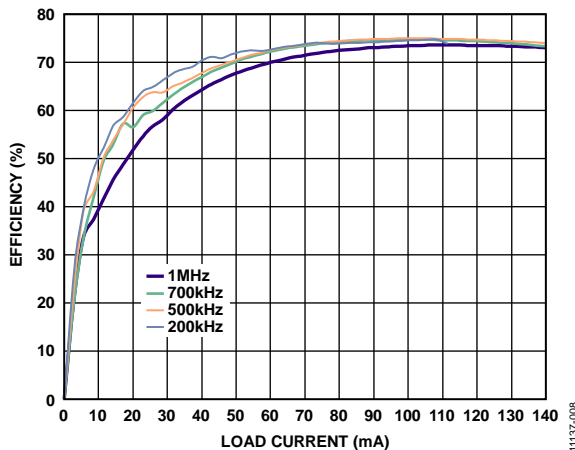
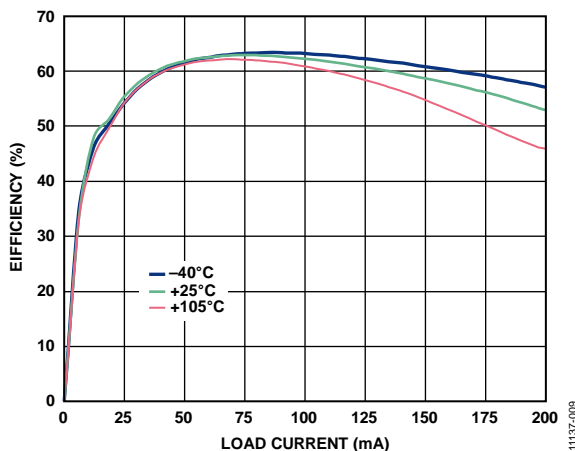
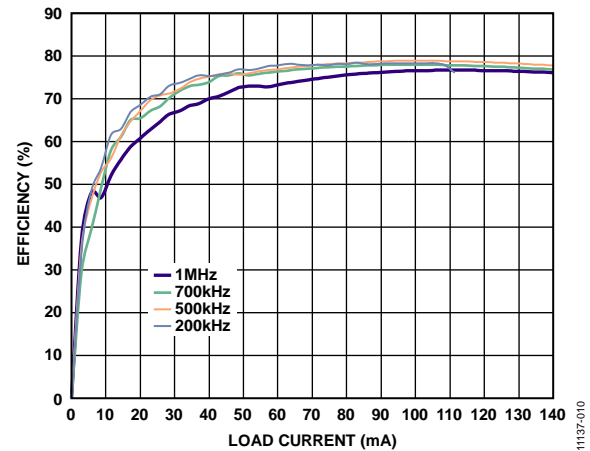
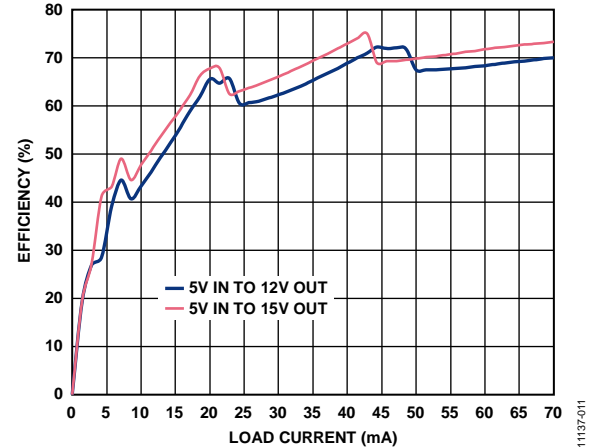

Figure 8. 5 V Input to 15 V Output Efficiency Using a 1CT:3CT Coilcraft Transformer (CR7983-CL) at Various Switching Frequencies
Figure 9. 5 V Input to 15 V Output Efficiency Using a 1CT:3CT Coilcraft Transformer (CR7983-CL) at 500 kHz and Various Temperatures
Figure 10. 5 V Input to 15 V Output Efficiency Using a 1CT:3CT Halo Electronics Transformer (TGRAD-560V8LF) at Various Switching Frequencies
Figure 11. Double-Supply Efficiency for Various Output Configurations Using a 1CT:5CT Coilcraft Transformer (CR7983-CL) at 500 kHz
Side 2 is powered by the secondary isolated 15 V supply. The ADuM4471 internal low dropout regulator converts this voltage to 5 V. The regulated 5 V supply powers the ADuM4471 secondary side. Therefore, the ADuM4471  $V_{REG}$  pin is 15 V, and the  $V_{DD2}$  pin is 5 V. The 15 V supply connects to P7 (labeled OUT1). The 7.5 V supply connects to P9 (labeled OUT2). The Side 2 ground reference is tied to P10. See the ADuM4470/ADuM4471/ADuM4472/ADuM4473/ADuM4474 data sheet for an explanation of the double-supply theory of operation. Figure 8 through Figure 11 show efficiency curves for the double supply with the 15 V or 12 V isolated output supply connected to  $V_{REG}$ .
The EVAL-ADuM4471EBZ supports multiple transformer options. In the double-supply configuration, the board must be equipped with a Halo Electronics TGRAD-560V8LF (T2) or a Coilcraft CR7983-CL (T3) 1CT:3CT turns ratio transformer (see the ADuM4470/ADuM4471/ADuM4472/ADuM4473/ADuM4474 data sheet for details on transformer selection with the ADuM4471). Figure 8 and Figure 10 show the efficiency of the supply using a 1CT:3CT Coilcraft transformer (CR7983-CL) and a 1CT:3CT Halo Electronics transformer (TGRAD-560V8LF), respectively, at various switching frequencies. Figure 9 shows how temperature affects efficiency.
The user can select a different switching frequency by removing R12 and R13 and then choosing R18 based on Figure 3. The board is configured for the 500 kHz setting by default. Figure 8 and Figure 10 show how the switching frequency affects the efficiency of the supply using a Coilcraft transformer (CR7983-CL) and a Halo Electronics transformer (TGRAD-560V8LF), respectively.
In the double-supply configuration, the EVAL-ADuM4471EBZ board can be configured to have 12 V regulated and 6 V unregulated secondary isolated supplies by short-circuiting R11 with a 0  $\Omega$  resistor for R10. The regulated supply voltage is set by the fraction of the supply that is fed back to the ADuM4471 via the voltage divider comprising R6, R11, R15, and R10. The voltage at the feedback pin (FB) is 1.25 V. With R10 open-circuited, the ADuM4471 feedback voltage is approximately 1.25 V if  $V_{ISO}$  is 15 V. When R10 is short-circuited, the feedback voltage is approximately 1.25 V if  $V_{ISO}$  is 12 V (see the ADuM4470/ADuM4471/ADuM4472/ADuM4473/ADuM4474 data sheet for more information about setting the secondary isolated output supply voltage). Figure 11 shows the efficiency curves for both output settings at 500 kHz using a Coilcraft transformer (CR7983-CL).